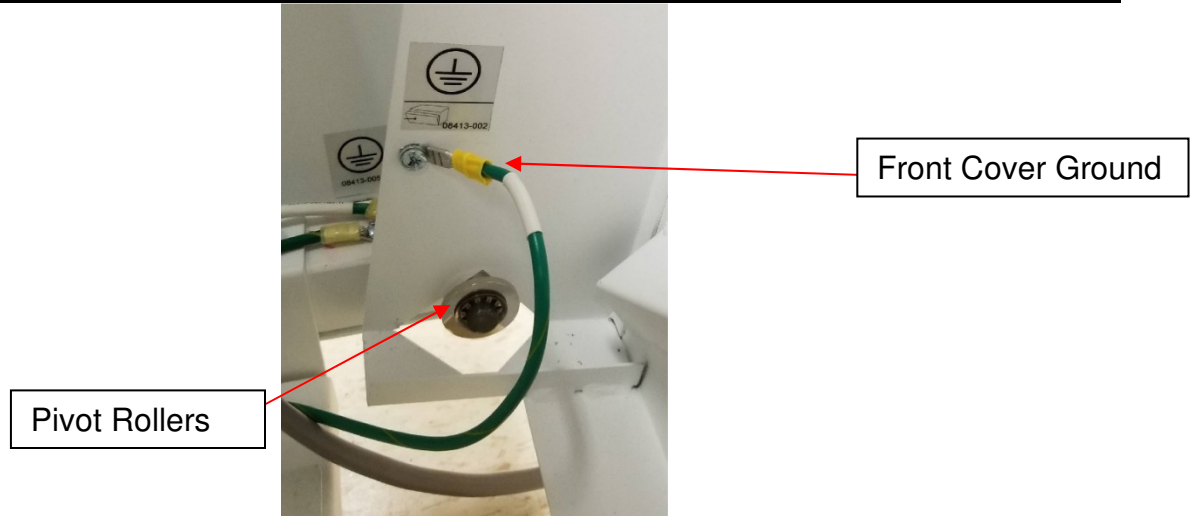

Figure 33: Front Cover Ground and Rollers
1. Install the spring and air shock on the left side of the table as pictured in Figure 33.